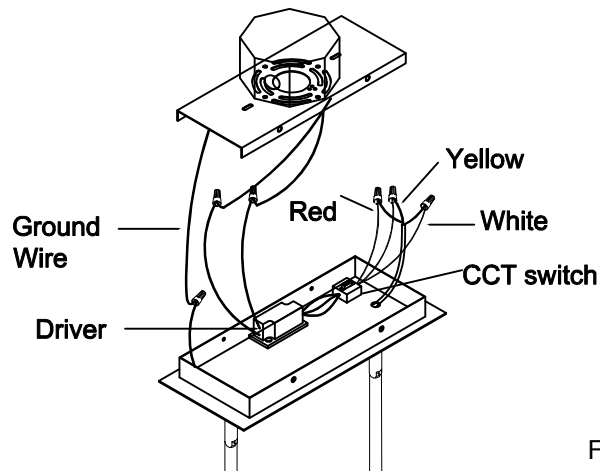

Fig.4
5. Make wire connections using wire nuts provided (Fig. 4):